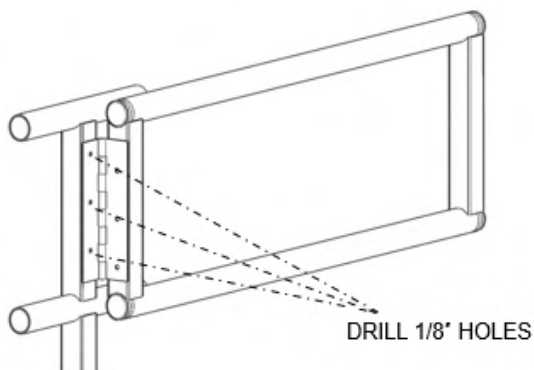
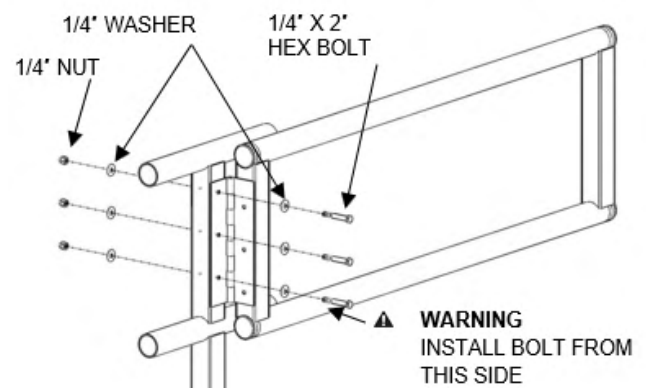

FIG. 7.15
FIG. 7.16
- 7.8.4. Using the holes in the hinge as a template, mark locations with a pencil, then drill three 5/16" holes through both sides of the vertical handrail tube (FIG. 7.15). Install fasteners through hinge and vertical handrail tube and secure as shown (FIG. 7.16).